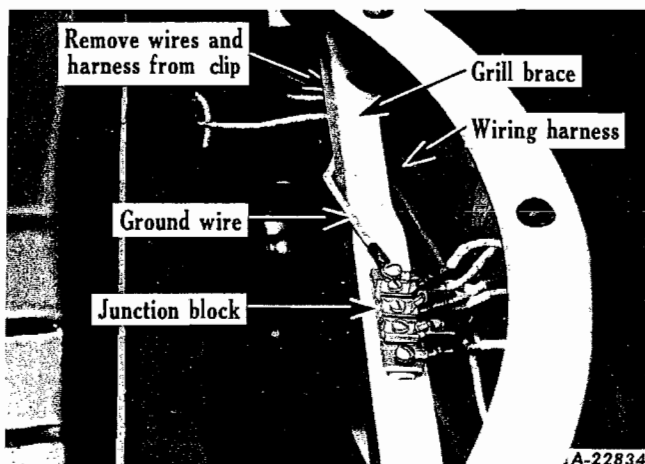

Fig. 64
2. Disconnect the head lamp, parking lamp and ground wires at the junction block on grille brace. Note identification numbers on wire for reassembly (Fig. 64).
3. Remove head lamp wiring harness and junction block ground cable from clip located on left side of grille brace (Fig. 64).